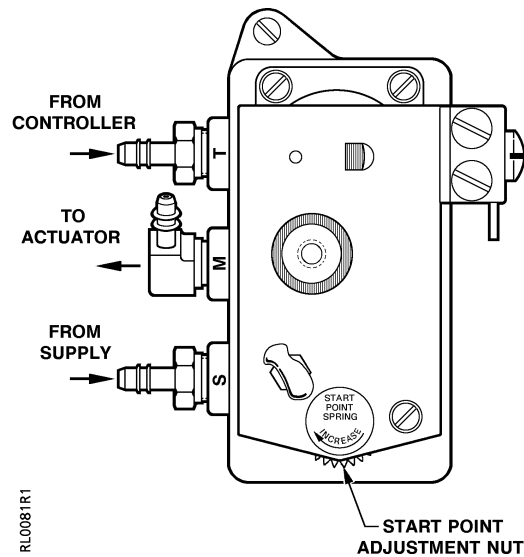

Figure 5. Start Point Adjustment.
4. If this is not the desired start point pressure, turn the start point adjustment nut (Figure 5) clockwise to increase the start point pressure and counterclockwise to decrease the pressure.